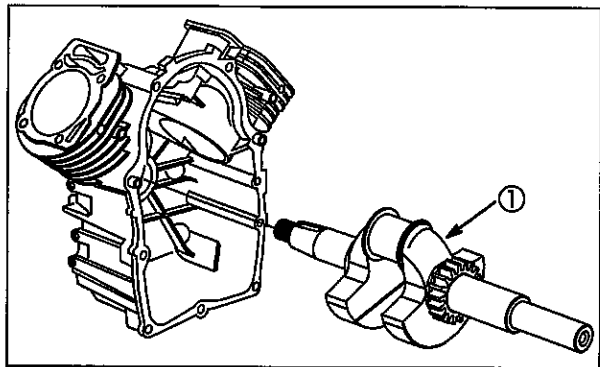

Fig. 28
Remove crankshaft (1) from cylinder, Fig. 28.